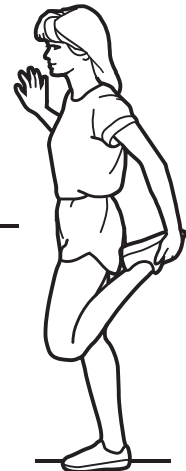

Figure 4
**Quadriceps Stretch:** With your left hand for balance against a wall or table, reach your right hand back to grasp your right ankle and gently pull it towards your hip until you feel a stretch in the front of your thigh. Hold for 10-15 seconds, then release. Perform this stretch three times for each leg (see Figure 4).